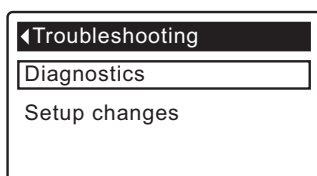

FIG. 78
2. To display the Diagnostics screen from any of the rolling status screens (when an error code is not displayed), press the SELECT (O) button to display the **Main menu**.
4. Press the SELECT (O) button to display the Advanced settings menu.
6. Press the SELECT (O) button to display the Troubleshooting menu (See Figure 78).
1. From any of the rolling status screens, press the SELECT (O) button to display the **Main menu**.
3. Press the SELECT (O) button to display the Advanced settings menu.
5. Press the SELECT (O) button to display the Troubleshooting menu (See Figure 78).
- **Cancel** will return to the Troubleshooting menu (Figure 78).
9. Press the SELECT (O) button.